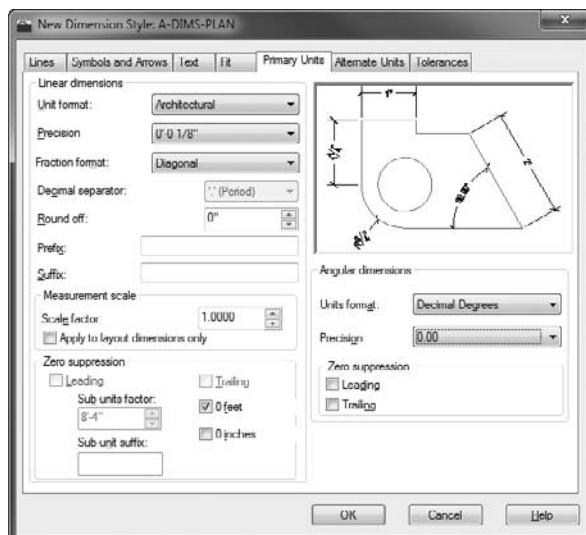

FIGURE 12.9 The Primary Units tab after changes have been made using imperial units
1. Click the Primary Units tab, and take a peek ahead at Figure 12.9 to see how it’s organized. It has two areas: Linear Dimensions and Angular Dimensions, each of which has several types of settings.
After these changes, the Primary Units tab looks like Figure 12.9.